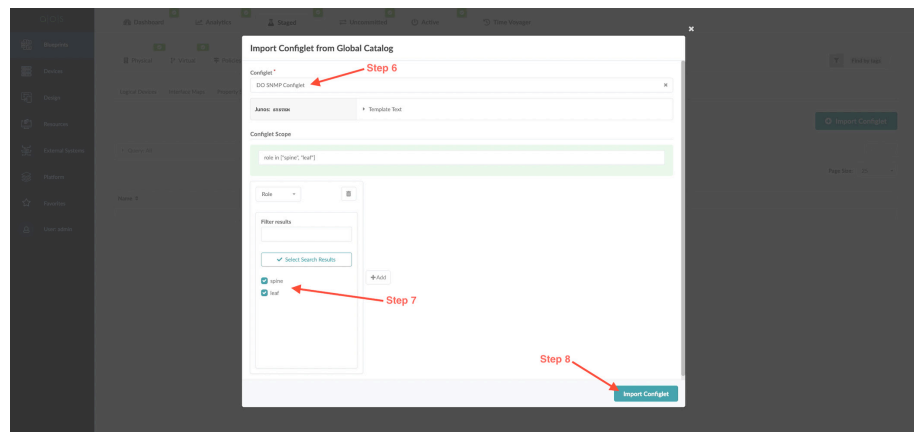

Figure 7.6
Step 6: From the dropdown select the Configlet to be imported. See Figure 7.6.